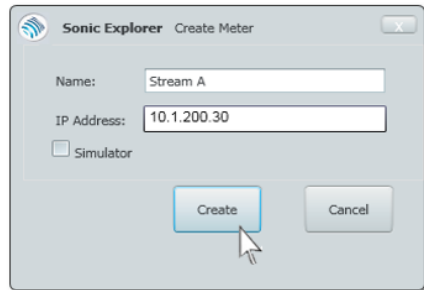

Figure 8-2 Create a meter
- ▶ A menu will pop-up asking you for a **Name** and an **IP Address**. Fill in these fields accordingly. (Please see Figure 8-2).